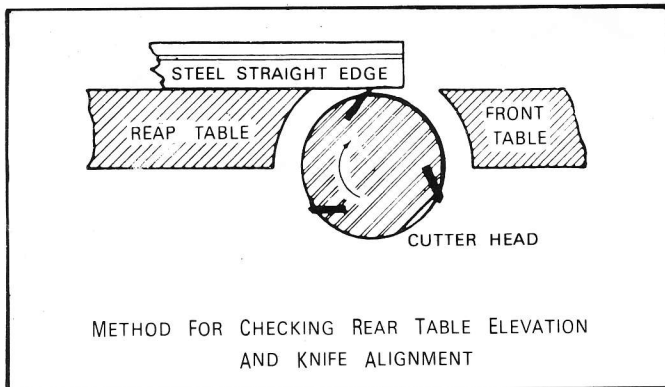

Fig.9
3. Place a straight edge on the rear table, extending over the cutterhead as shown in Fig. 9 .